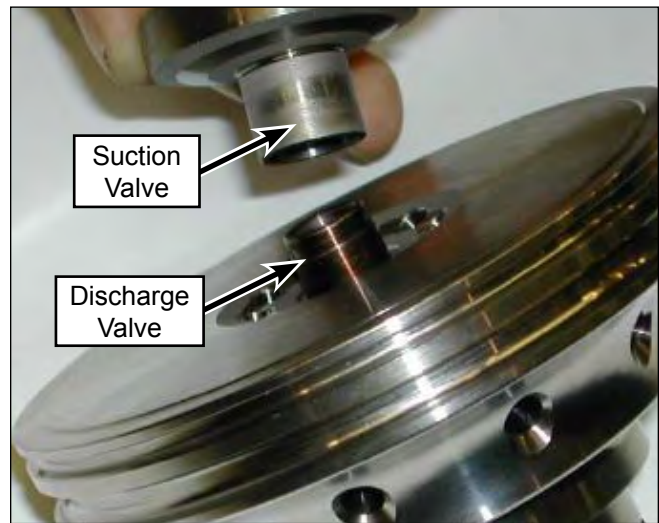

Figure 91: Remove Suction and Discharge Valves.
7. Remove the suction and discharge valves (Figure 91).